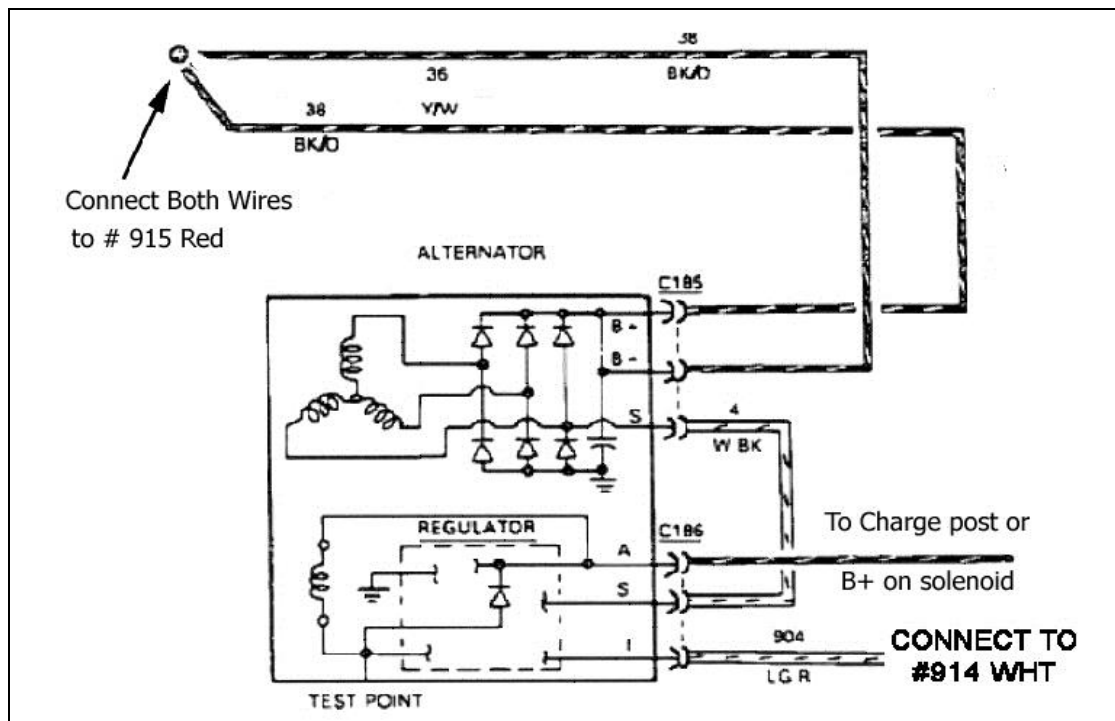

Figure 8-1C Ford 2G Alternator
- 8.1.6** Connect ENGINE SECTION wire #915 RED to both wires as noted in **Figure 8-1C**.
- 8.1.7** Connect ENGINE SECTION wire #914 WHT to the Light Green/Red stripe wire as noted in **Figure 8-1C**.